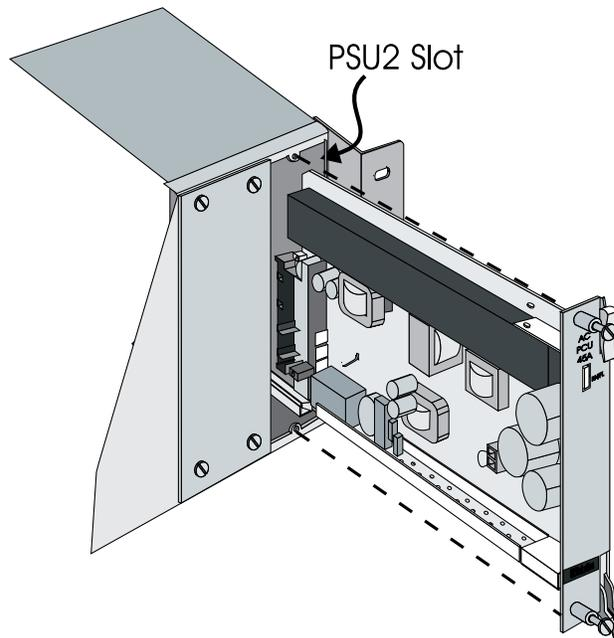

Figure 28. Installation of PSU
- 4 With the DIN connector toward the bottom of the Power Supply Unit and the PSU components to your left, insert the PSU into the upper and lower card guides of the slot (see Figure 28). As you slide the unit in, use your thumbs to lift the ejector tab at the top right of the PSU front panel to allow the unit to enter. Slide the unit in smoothly and ensure that its DIN connector is firmly seated in the connector in the power supply backplane.